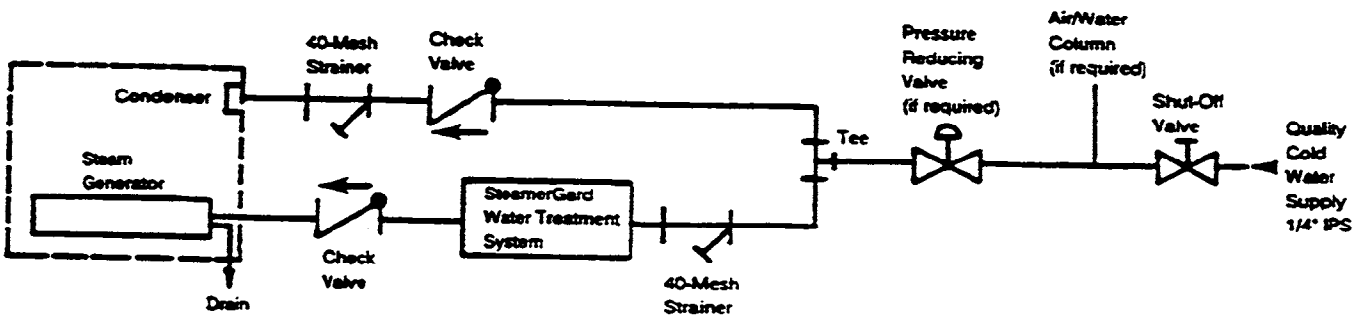

Figure 2-15. Double Water Connection with SteamerGard
6. When installing a water treatment system, Cleveland Range recommends the plumbing layout illustrated in Figure 2-15.
1. Refer to Figure 2-15 and the SteamerGard installation manual.